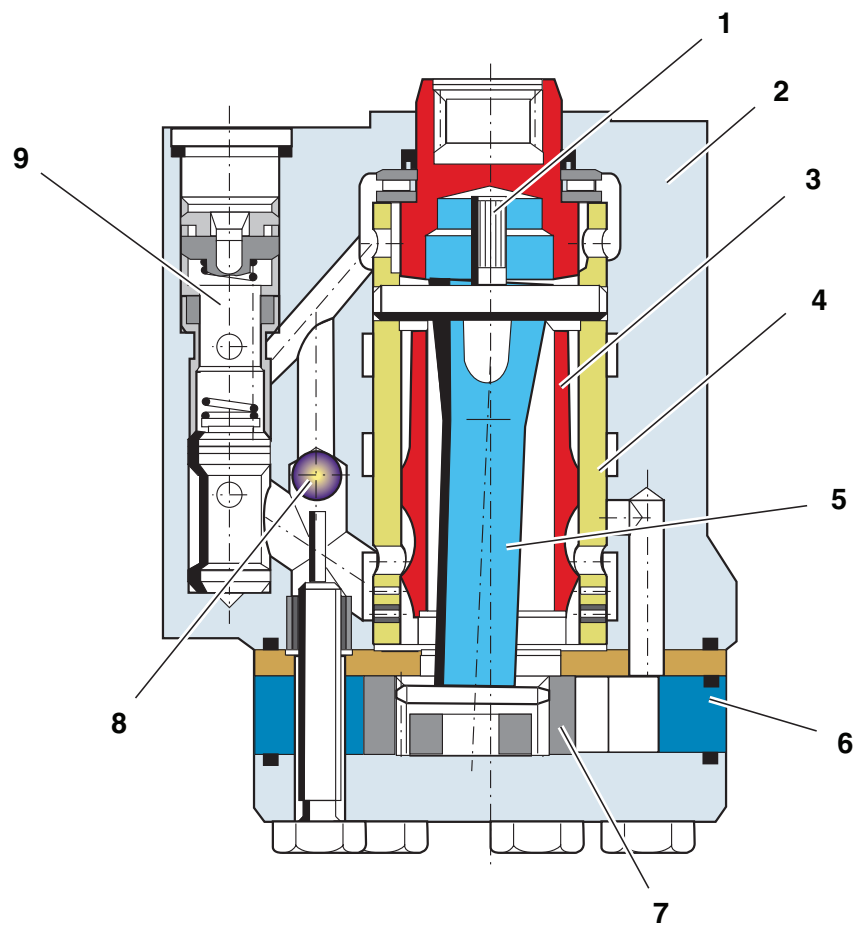

Fig. 3: Steering unit
- starter (M01:05) (Fig. 3) terminal 30.
Terminal D+ supplies the generator module (A23:23) with a (+) or (-) signal. When the engine is not running terminal D+ is negative (ground potential). The charge control light in the monitoring board (A15) (Fig. 3) lights up. Refer also to the chapter "Monitoring board".
Ignition and starter circuit (Fig. 3)
Relay (K11) switches potential 30 to potential K11 (15/54). Fault monitoring unit (A15) (Fig. 3) supplies the coil of relay (K22:40) with current, the relay switches. Current flows